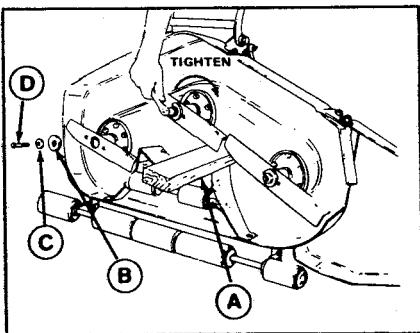

Figure 14. Install Blade
6. Reinstall each blade with the tabs pointing up toward deck and secure with a cap screw, cup washer, and spline washer. Be sure spline washer is aligned with shaft splines. Use a wooden block to prevent blade rotation (figure 14) and torque capscrews to 55 ft. lbs. (74.6 N.m).